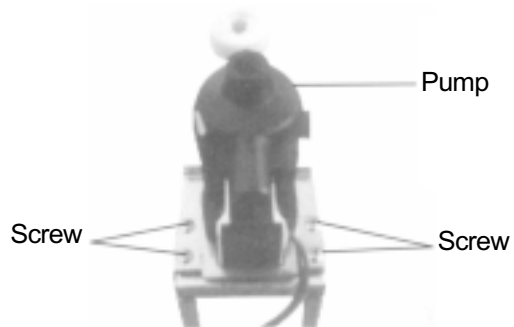

Figure 21
- ⑪ Disassemble the pump .
- Unscrew the four screws as shown in figure 21 with a screwdriver.